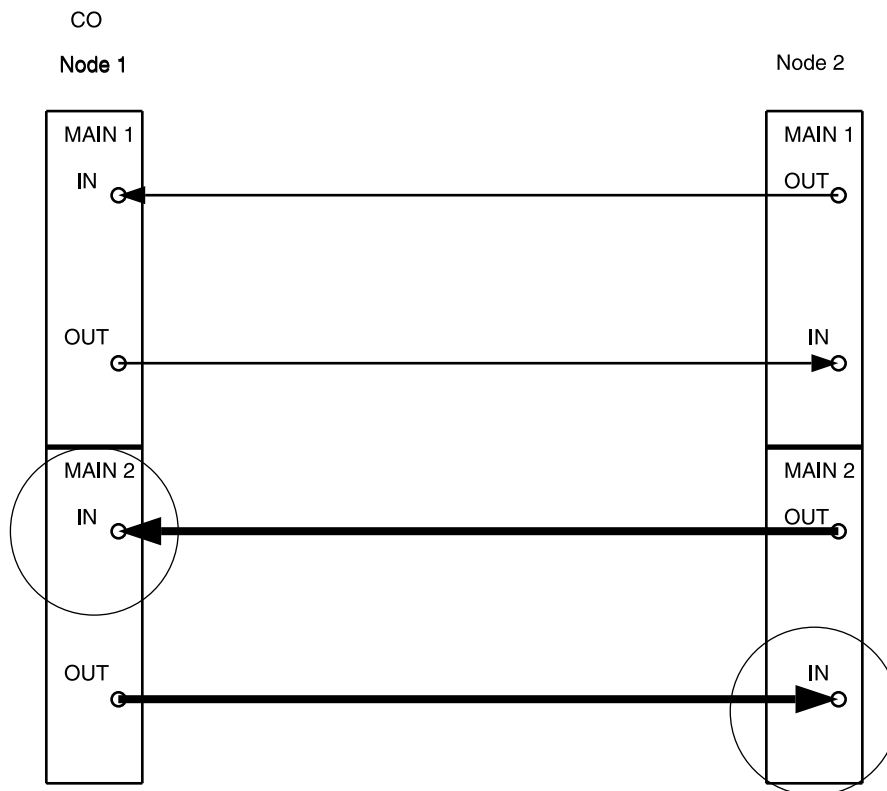

Figure 1 - DDM-2000 OC-3 Point-to-Point to Ring Upgrade
10. At Node 1 and Node 2, use the **switch-line:main:pri>manual** command to switch to the protection line. Use the **rtrv-state-eqpt:main-all** command to check switch state (main-2 OLIU active). (See Figure 1.)